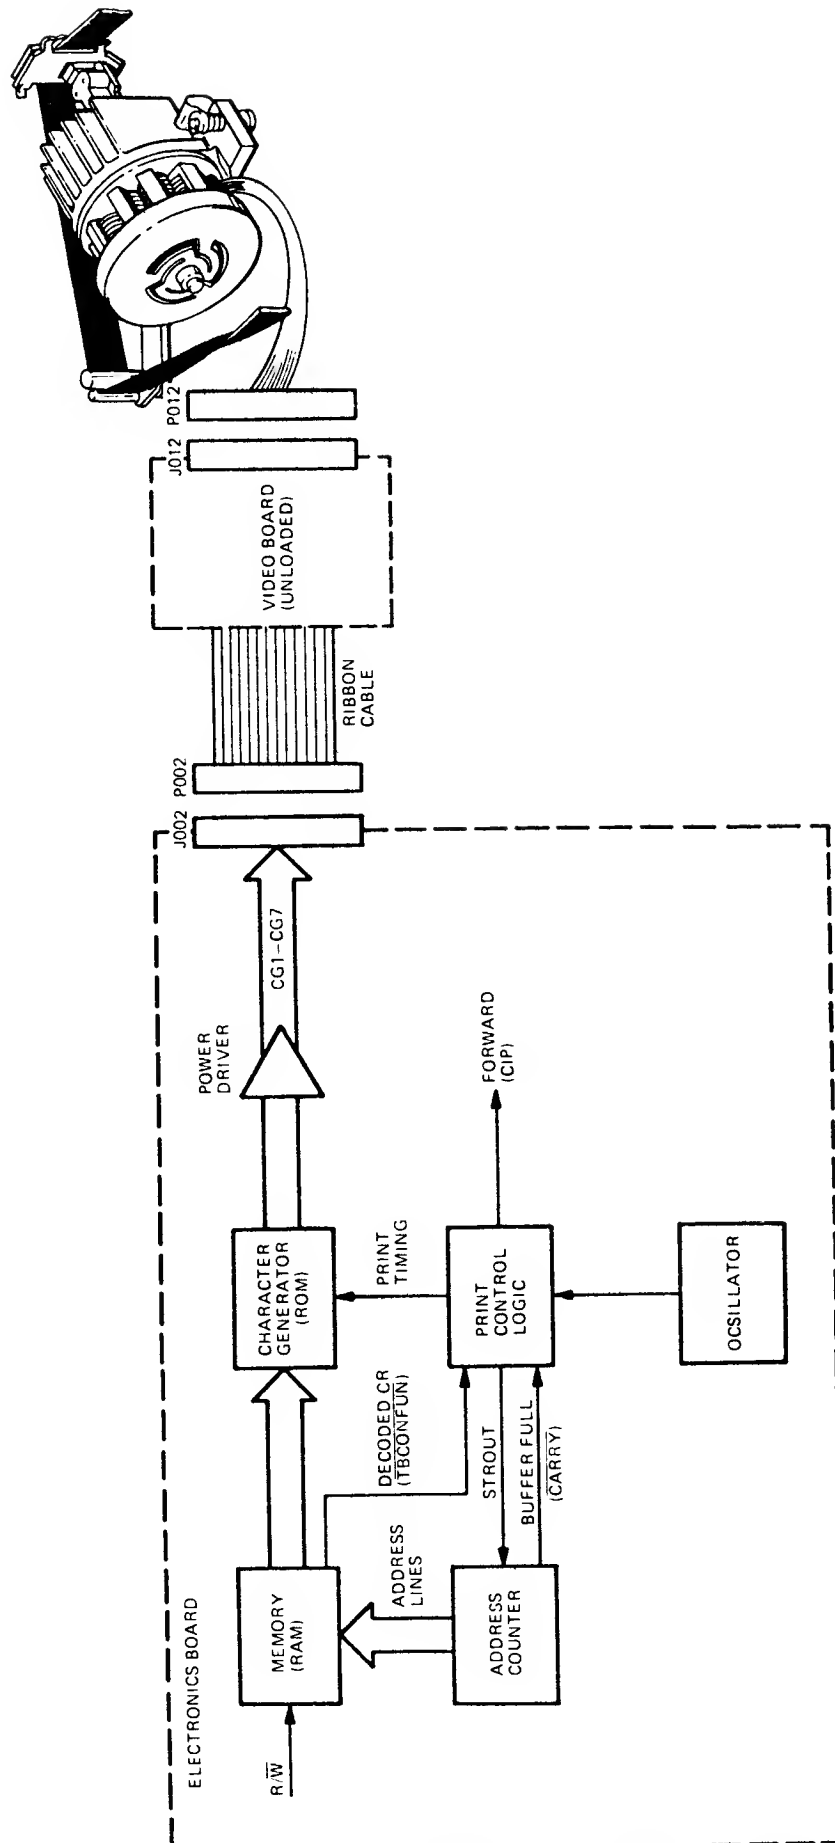

Figure 2-4. CHARACTER PRINTING
2.5 CHARACTER PRINTING (Figure 2-4)